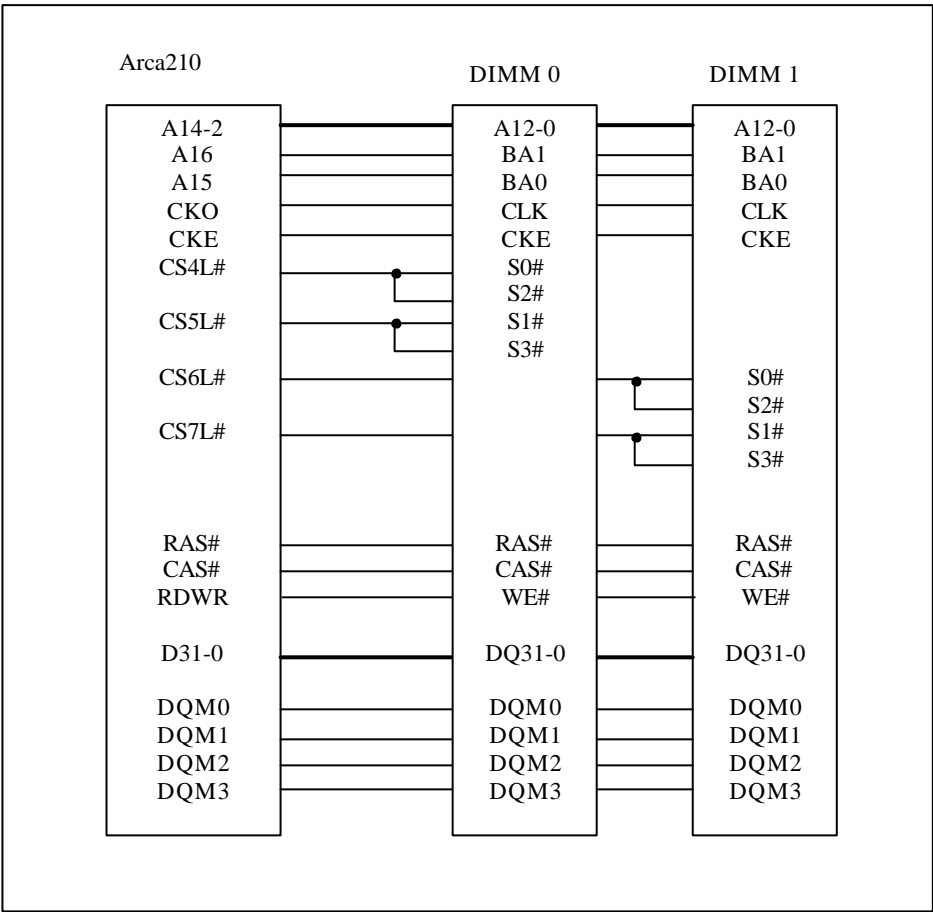

Figure 3-20 Example of Synchronous DRAM 100-pin DIMMs Connection
- In system using 100-pin DIMMs, the CS bit of DMCR should be set to 0. 4 chip selects correspond to 2 DIMM cards. CSnL# are used as chip-select signals and CSnH# is ignored (n = 4 to 7). Figure 3-20 shows an example of 100-pin DIMMs connection.